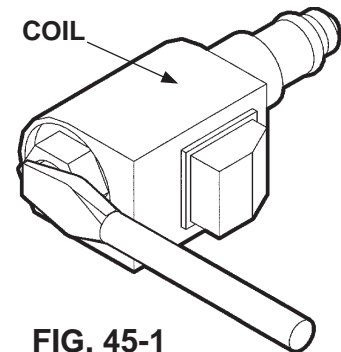

FIG. 45-1
1. Check if solenoid valves are constantly energized by touching a screwdriver to the top nut of the solenoid (**FIG. 45-1**). Try pulling the screwdriver away from the solenoid. If the solenoid nut attracts the screwdriver (magnetically) without pushing the toggle switch, the control circuit is operating incorrectly. Check if toggle switch, wiring or coil are faulty.